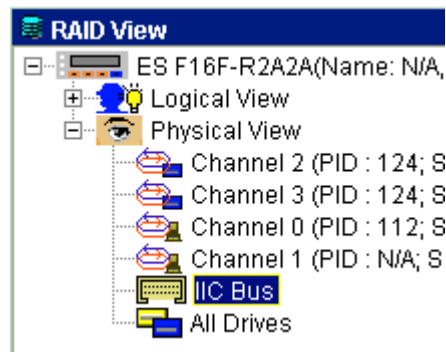
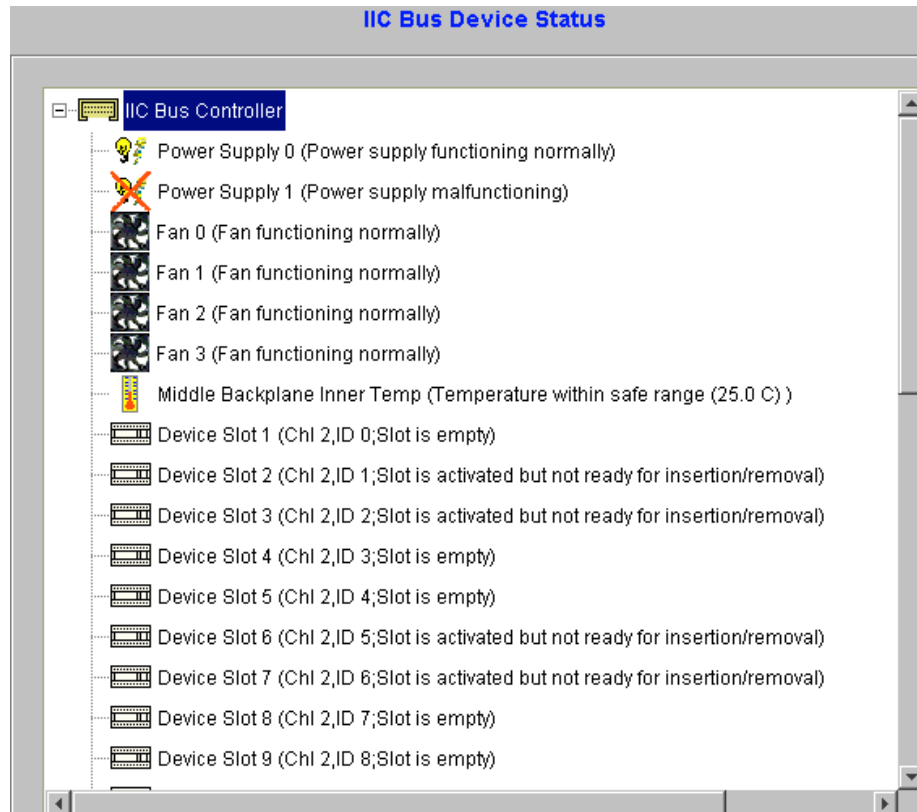

Figure 10-1: Selecting the I²C Icon
Figure 10-2: IIC Bus Device Status
Step 1. To access the SAF-TE, I²C, or Fault Bus first, open the *RAIDView* navigation panel by selecting either the *RAIDView* icon in the toolbar or the *RAIDView* command in the “View” menu. After opening the *RAIDView* select the *Physical View* icon in the *RAIDView* navigation panel, items shown in *Figure 10-1* should appear.
Step 2. In the example shown in *Figure 10-1* the “*IIC Bus*” icon is selected. If the “*SAF-TE*” or the “*Fault Bus*” icons are shown, these two can be selected. After the relevant icon is selected a new window should appear in the content panel. In the case of the “*IIC Bus*” icon being selected, a screen similar to the one shown in *Figure 10-2* should appear in the content panel.